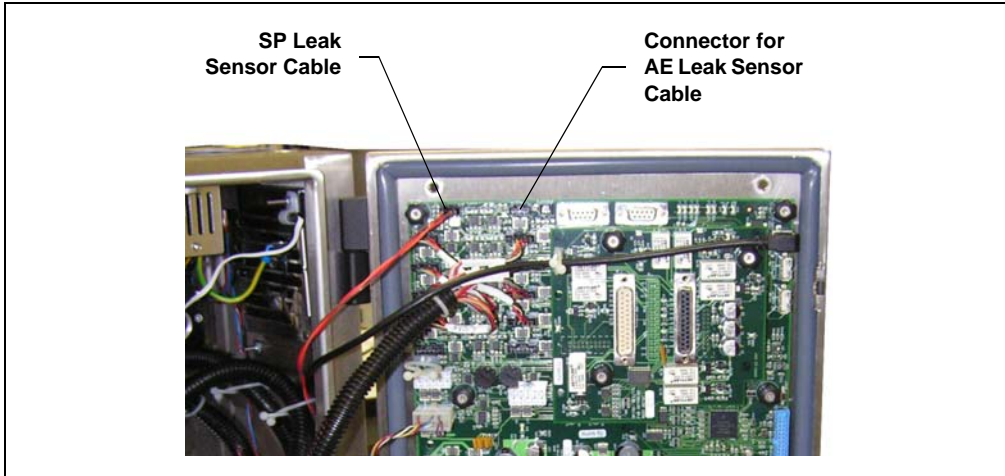

Figure 9-1. SP Electronics Board (Vertical Enclosure Shown)
4. If no leak is found, check the leak sensor's electrical connection on the SP electronics board. Follow the instructions in Section 10.6 to access the SP electronics board. The cables for the leak sensors plug into the connectors on the top edge of the board on the left side (see Figure 9-1).